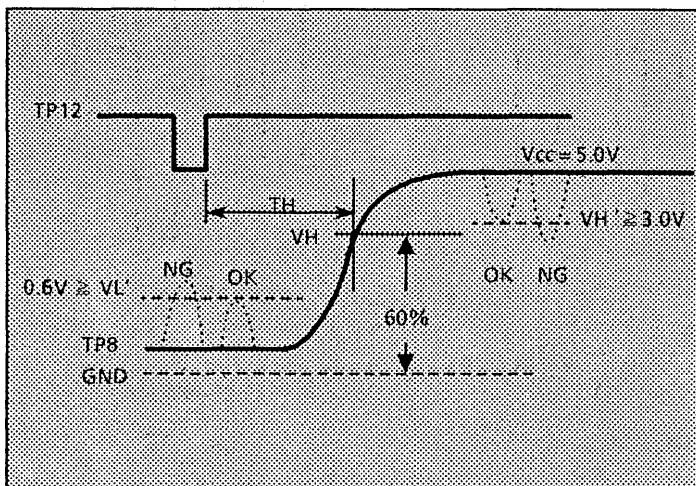

Fig. 9-6 Track 0 Waveform
- (2) Step between specified tracks at in the track 0 item of Table 8-1. (Turn the seek delay switch on the exerciser to adjust 3 ms seek.)
- (3) Loosen the track 0 sensor screw and adjust until the waveform on the oscilloscope appears as shown in Fig. 9-6.